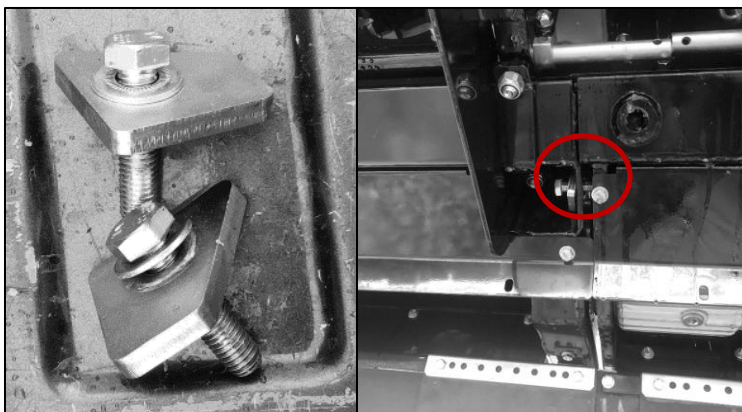

Figure 3: Shipping hardware (left) removed from underneath header at pivot point (right).
- 3.3.3. For folding headers, remove shipping hardware locking wing to center section (Figure 3).